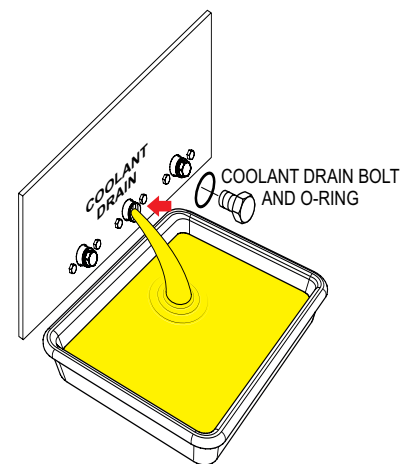

Figure 57. Draining Radiator Coolant
2. Remove the coolant drain bolt and o-ring (Figure 57), then allow the coolant to drain into a suitable container.
2. Remove the coolant drain bolt and o-ring (Figure 57), then allow the coolant to drain into a suitable container